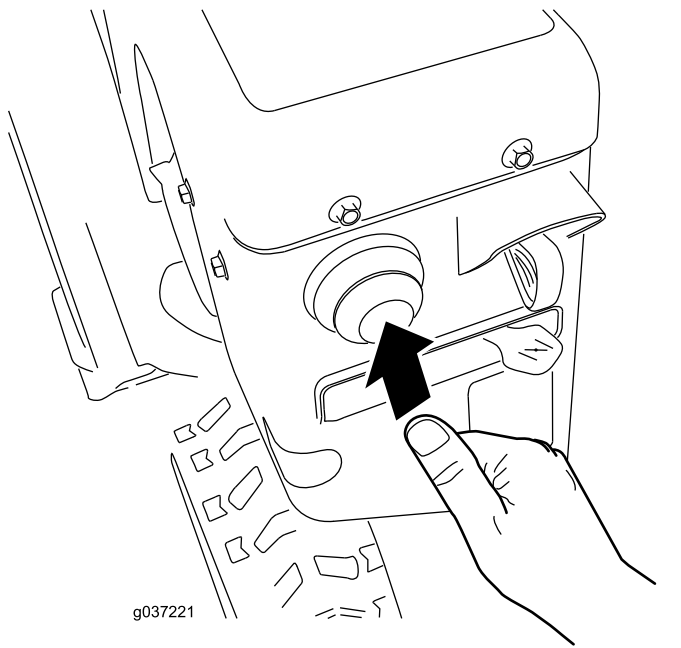

Figure 17
- 4. Firmly push in the primer with your thumb as indicated by the following table, holding the primer in for a second before releasing it each time (Figure 17).